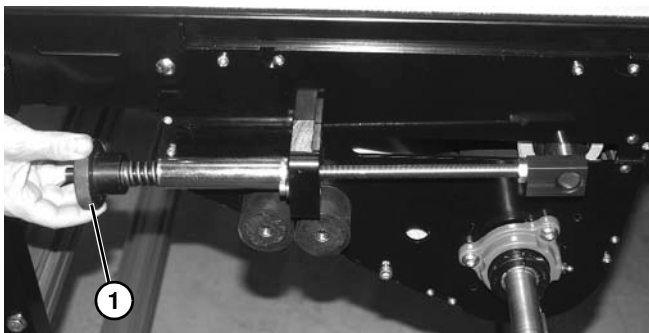

Figure 177
2. Loosen tension on drive belt by rotating tensioning knob (**Figure 177, item 1**) counterclockwise on both sides of conveyor.